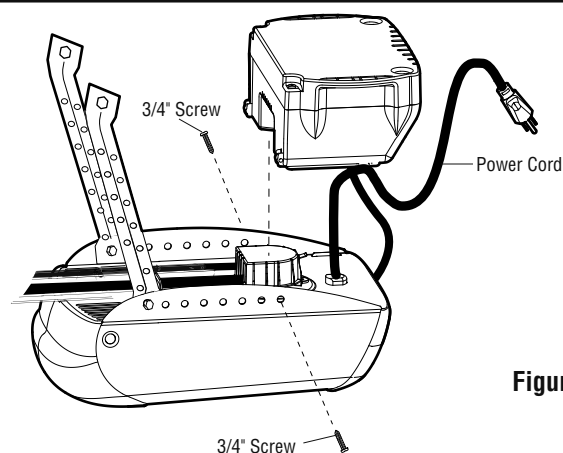

Figure 1
- Position the SPU on top of the motor unit. Make sure the motor unit power cord is drawn out from beneath the SPU. The SPU should sit firmly on top of the motor unit. Adjust angle iron placement so that it is out of the way of the SPU's installation (Figure 1).